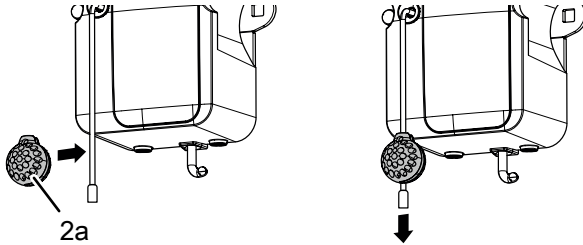

Fig. 7: Disabling burglar resistance
Place the sliding block (19) on the rail profile, push it into the rear opening on the motor head (2) and fasten it with the screw (14) (fig. 7).